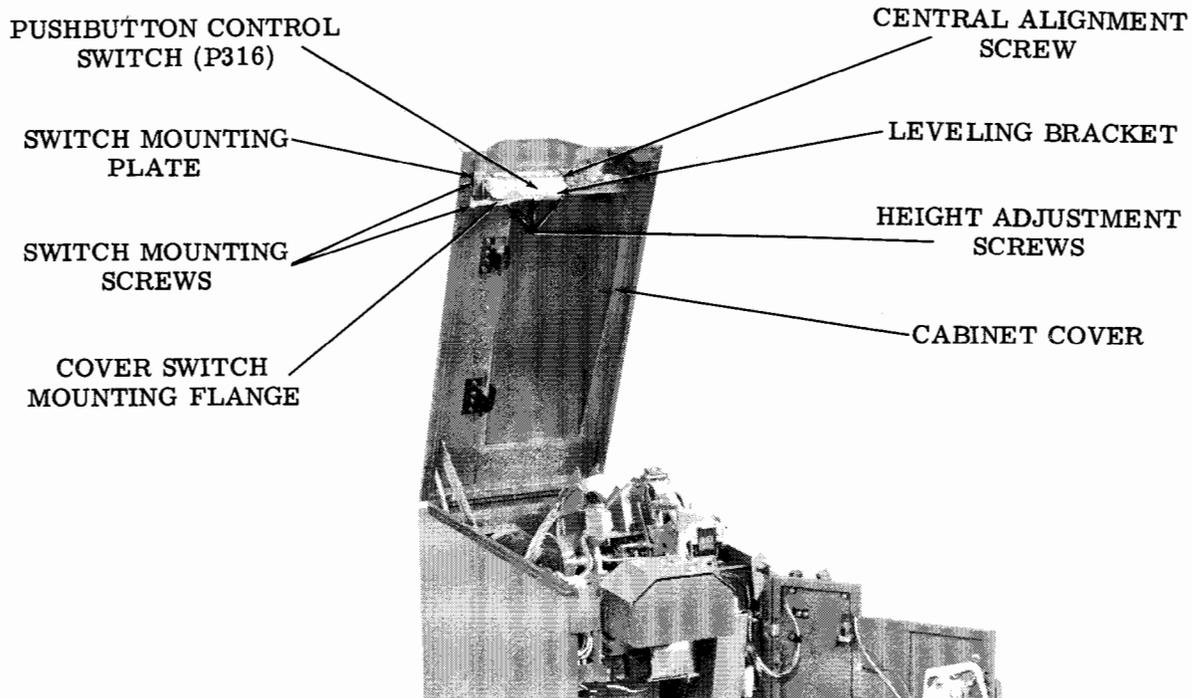

Figure 21 - Pushbutton Switch Removal
3.11 Remove the RT electrical service unit from the RT module cabinet as follows (Figures 21 and 23).